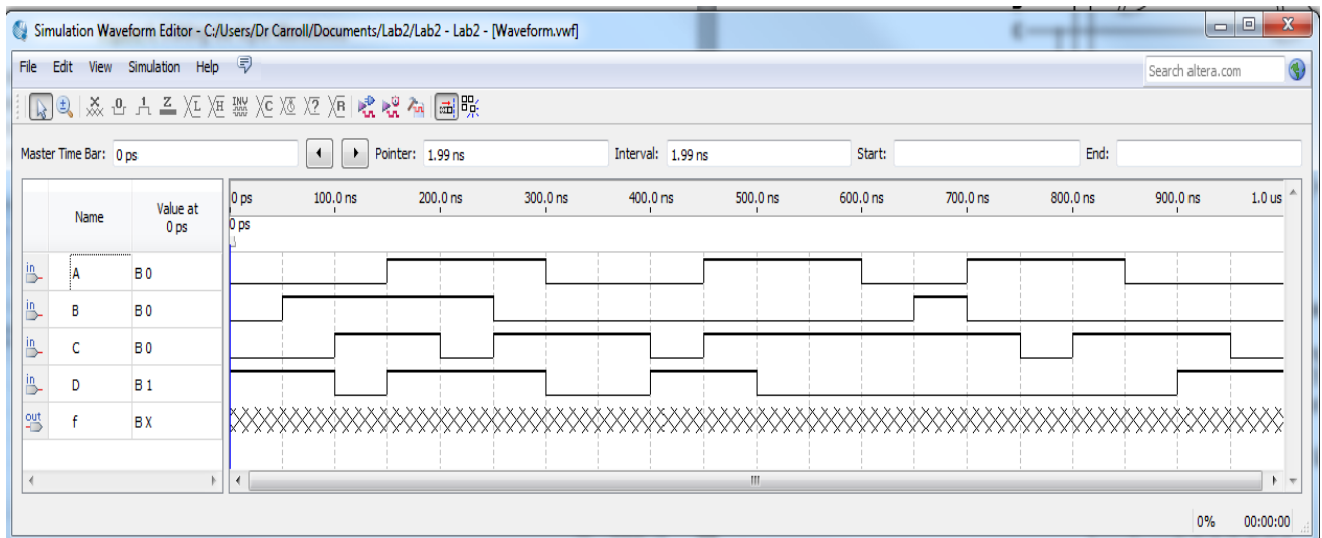

Figure 6. Editing the Input Waveforms
6. Then click on the **>>** button to copy all the nodes from the left pane to the right pane as **Selected Nodes**. Then click **OK** button. You will be returned to the **Insert Node or Bus** window. Again click the **OK** button. That will return you to the Waveform Editor window. Observe that in the wave editor window, all the input signals (**A,B,C** and **D**) are at logic level 0 and the output **f** is shown undefined (X) for the entire simulation period (i.e, 1000ns).
- a. Click on the **A** waveform near the **150ns** point and then drag the mouse to the **300ns** point. The selected time interval will be highlighted in blue. Now click on the Forcing to High(1) button () from the toolbar to make the selected waveform to logic high level. You can also do this by clicking **Edit > Value > Forcing High(1)**. Similarly force high the **450ns-600ns**, and **700ns-850ns** ranges of A waveform.
- e. Finally the Waveform Editor window should look like one shown in Figure 6.